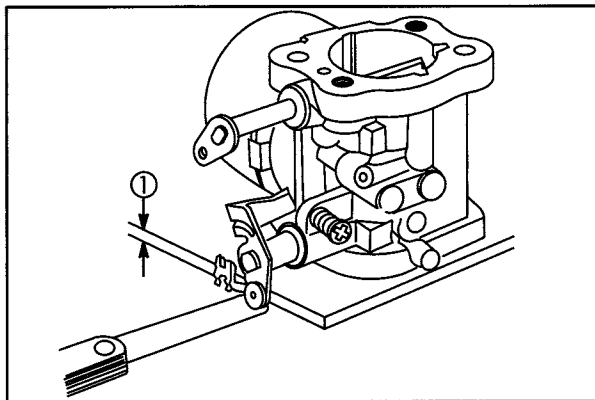

Fig. 21
1. Lay carburetor on flat surface and check throttle and choke shaft clearance (1) as shown, **Fig. 21**.